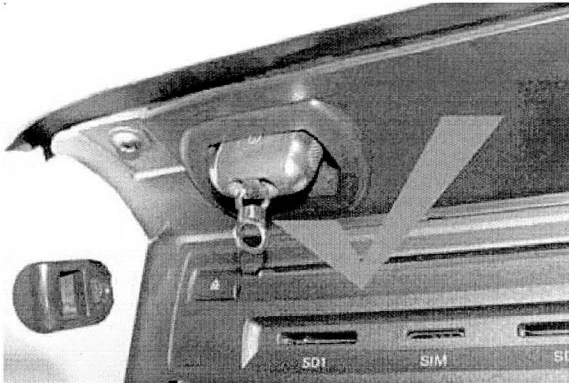

Figure 3
**IMPORTANT:** It is imperative that any adjoining keys or any other objects that are attached should be removed from the ignition key ring as shown in Figure 3, as extra weight may cause the key to withdraw from the reader